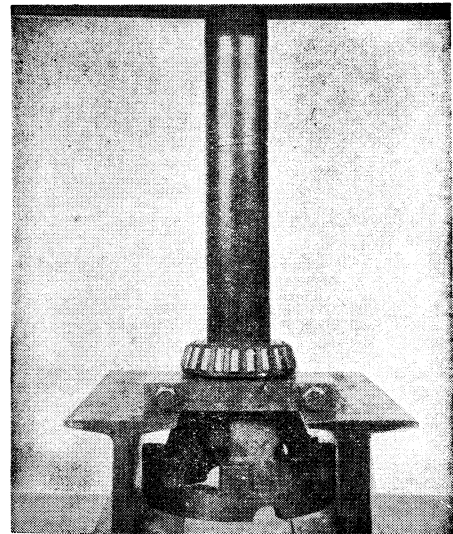

Fig. 76 Removing differential bearing
11. If necessary to replace differential bearings, remove with suitable puller, Fig. 76.